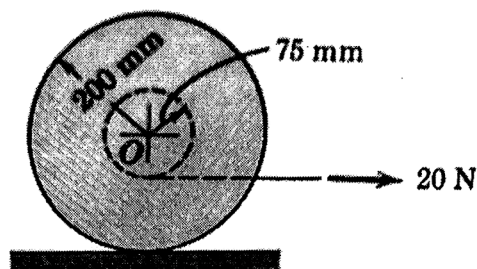

Fig Q12
12) Refer **FigQ12**. The circular disk of **200 mm** radius has a mass of **25 kg** and centroidal radius of gyration of **175 mm** and has a concentric circular groove of **75 mm** radius cut into it. If a steady horizontal force of **20 N** is applied to a cord wrapped around the groove as shown, find the angular acceleration of the disk and the acceleration of the center of the disk as it starts from rest. The coefficient of friction between the disk and the horizontal surface is **0.10**.